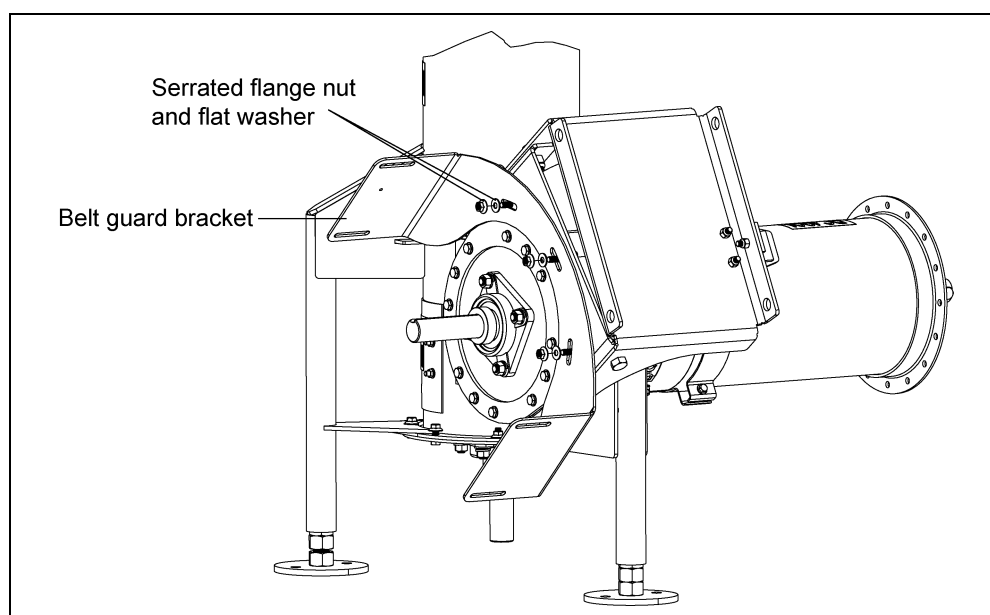

Figure 4O
2. Loosely bolt the brackets to the head plate using three (3) 3/8" serrated flange nuts and flat washers. *(See Figure 4O.)*